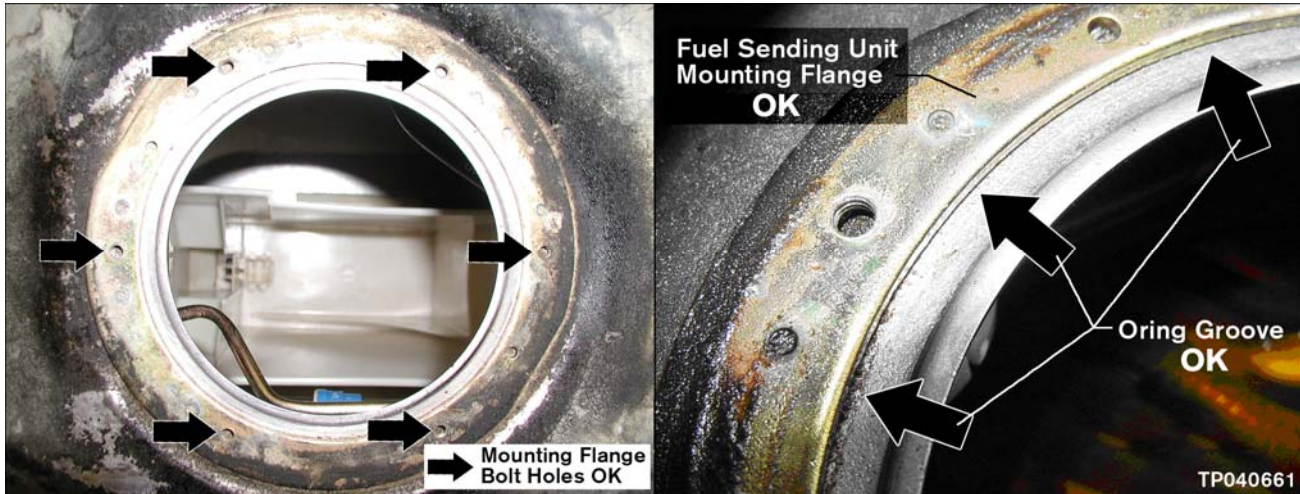

Figure 17
7. Inspect the Fuel Tank Sending Unit Mounting Flange and O-Ring Groove (see Figure 17 and 18).